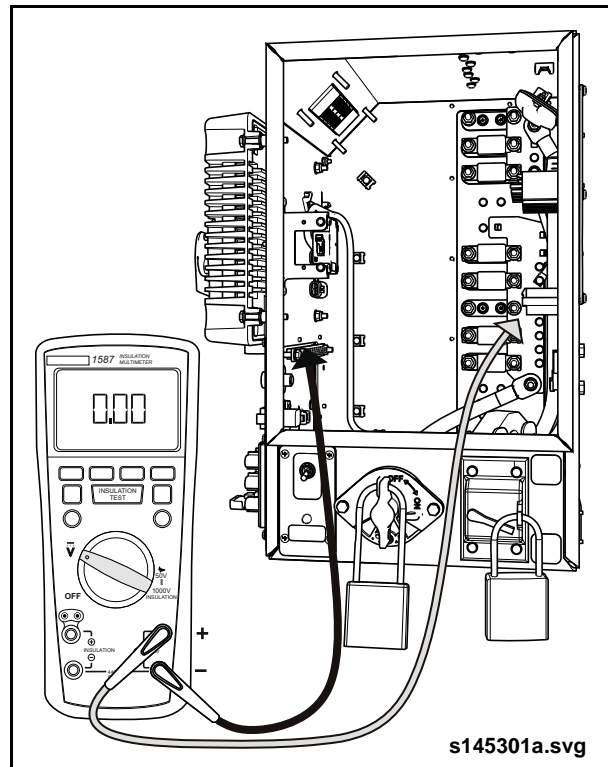

Fig. 2: Low Voltage Verification
5. Ensure there is no voltage on the 12/24 VDC battery bus bars. Measure in the main fusebox between the 24V bus bar and the ground bar. See “Fig. 2: Low Voltage Verification” on page 3.